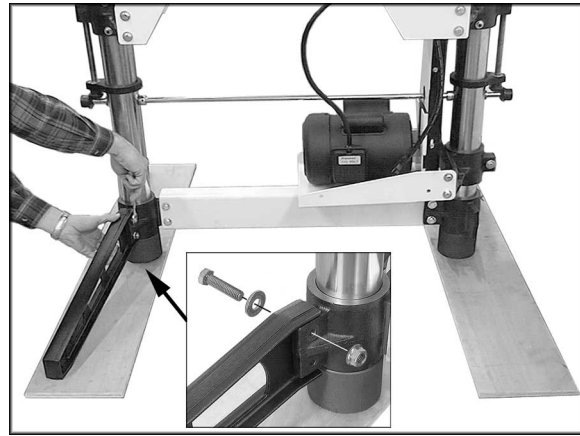

Figure 3
2. Position the assembly fixtures below the columns so that the wider part of the plywood faces outward (Figure 3). Lower the sander columns into the assembly fixtures.
3. Mount the four legs to the columns, using 3/8x1-1/2 hex head bolts, 3/8 flat washers and 3/8 flanged lock nuts, using a 9/16" wrench. See Figure 3. Tighten the flanged lock nuts securely, making sure the legs remain in contact with the plywood.